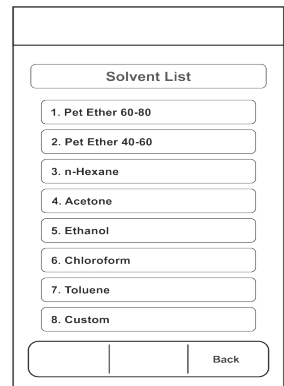

Fig. No. 25.3
a. Select Preset (Ref. Fig. No. 25.3)